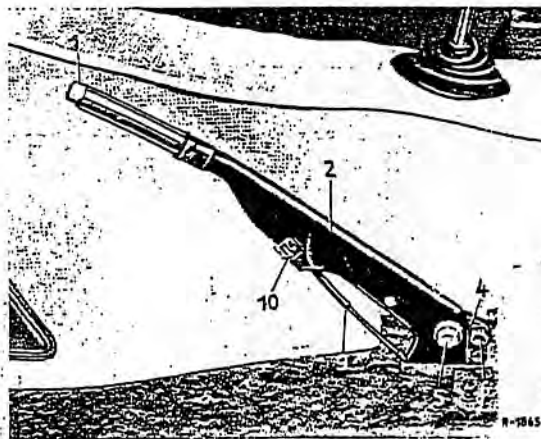

Fig. 42-18/7
2. Unscrew the pivot pin (5) from the threaded member (13) and remove together with the washer (11).
3. Push the push button (1) home and remove the brake lever (2) toward the front.
4. If the teeth of the toothed segment (4) should be damaged, remove the segment after unscrewing the hexagon screw (6).
5. Check the bearing bushings (12) in the brake lever for wear and replace, if necessary (Fig. 42-18/6).